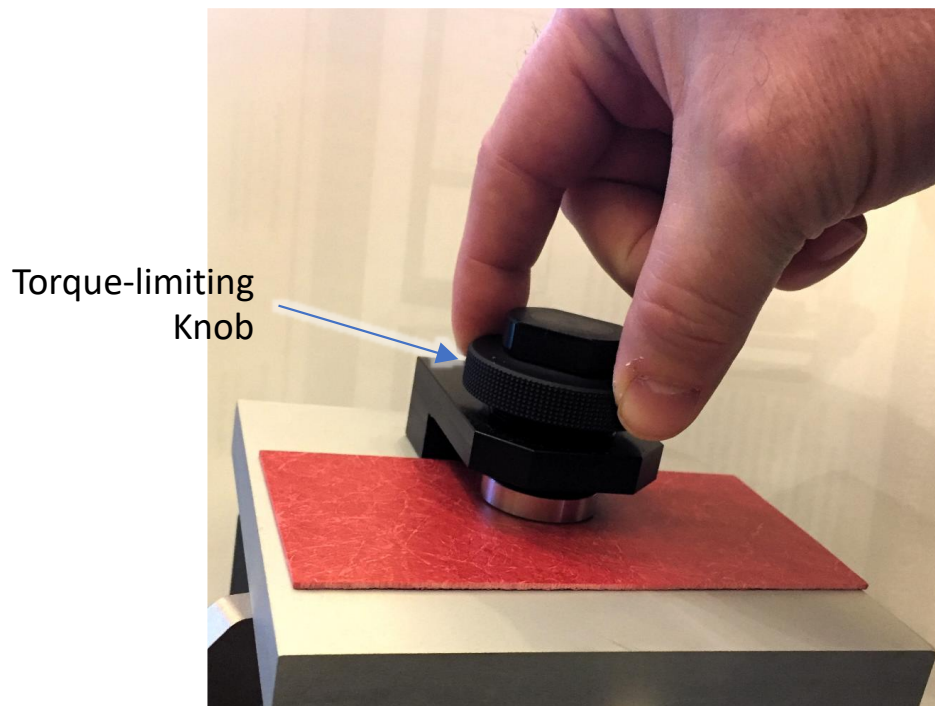

Figure 7. Photograph of torque-limiting knob
4. Note the knob includes a special secondary knob for limiting the torque of the electrode against the specimen. Use torque-limiting knob (**Figure 7**) to achieve final tightness so that the same torque/force is used for both the calibration measurement and the unknown specimen measurement.